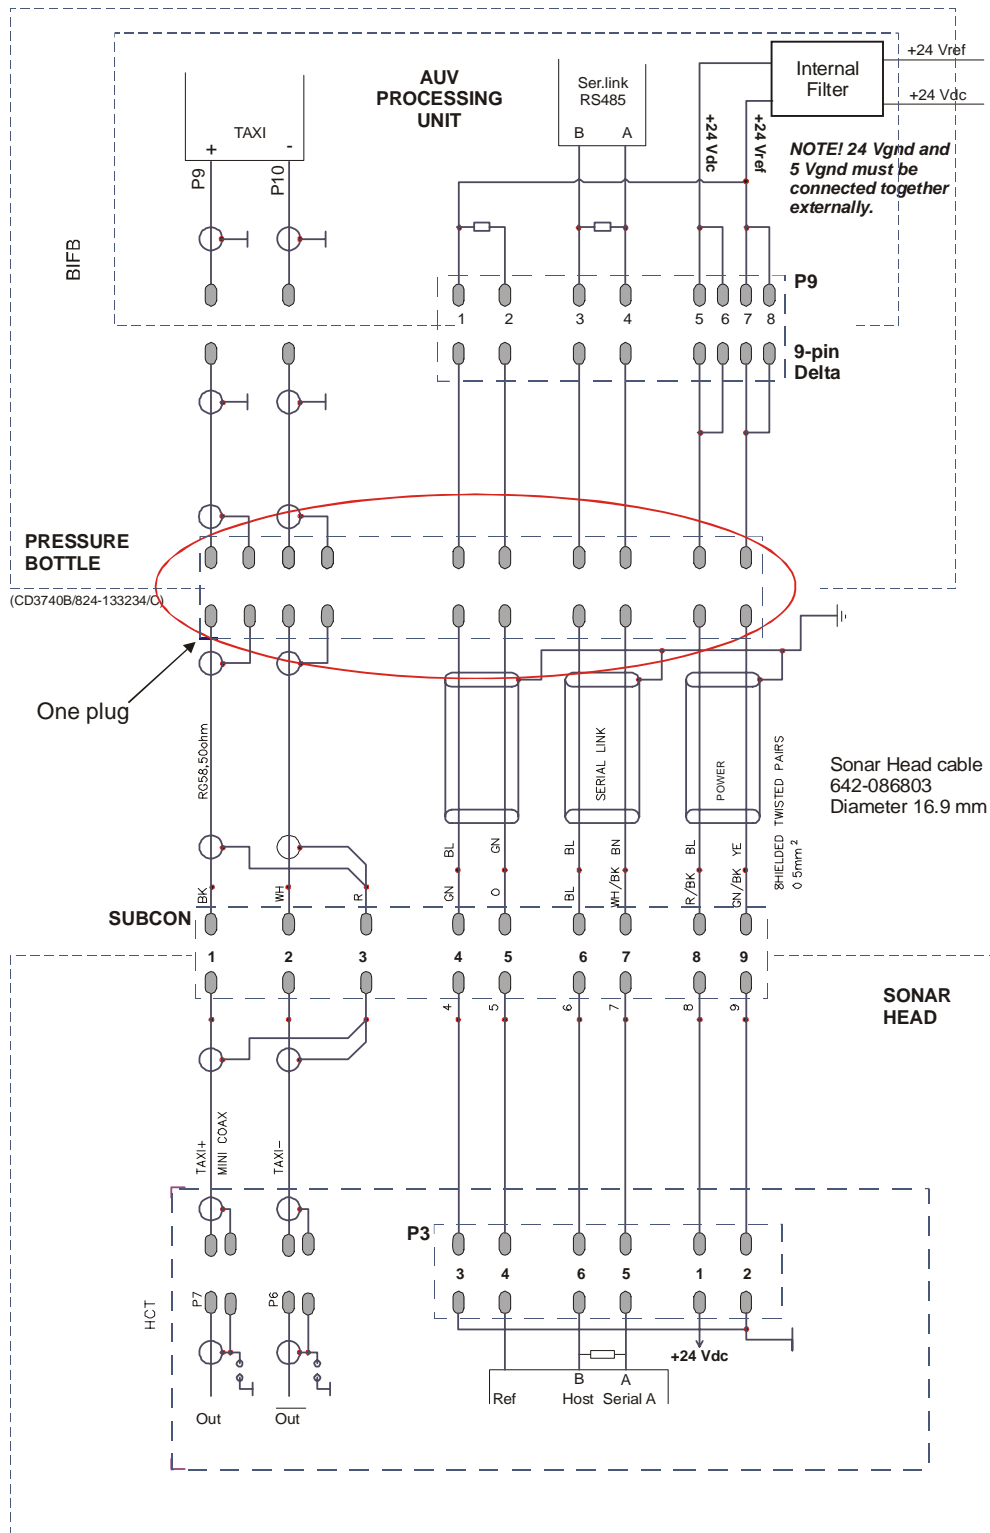

Figure 13 Sonar Head cable; connection diagram for AUV Processing Unit.
*On newer BIFB boards the TAXI interface is the same as in figure 13.*